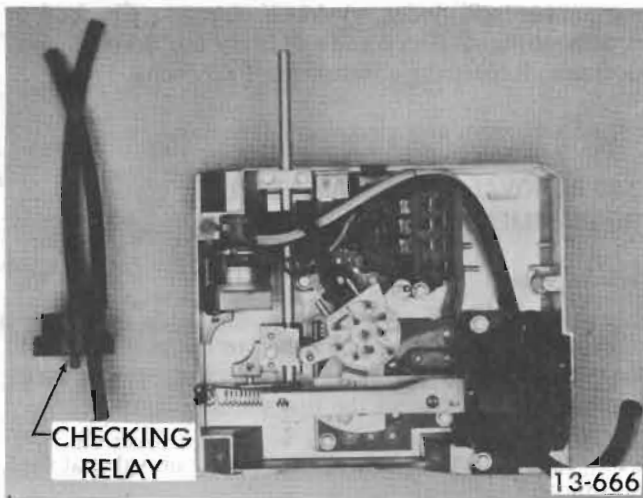

Figure 13-126 Checking Relay - Removed
1. Disconnect two (2) vacuum hoses from vacuum valve at the relay. Identify hoses and relay ports to which they connect for reconnecting.
3. To replace, reverse removal procedure. See Figure 13-126.